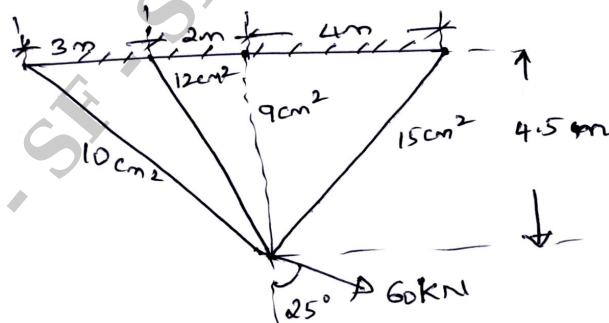

Fig.Q6
- 6 Find force in all members for the pin jointed frame shown in Fig.Q6 and also displacement of joint A. Use stiffness approach. Take $E = 200 \text{ GPa}$.